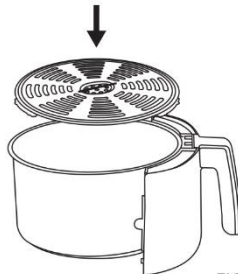

FIGURE 3
2. Place the Frying Rack (8) into the Drawer Pan (3) (see Figure 3).
3. Place ingredients onto Frying Rack (8).